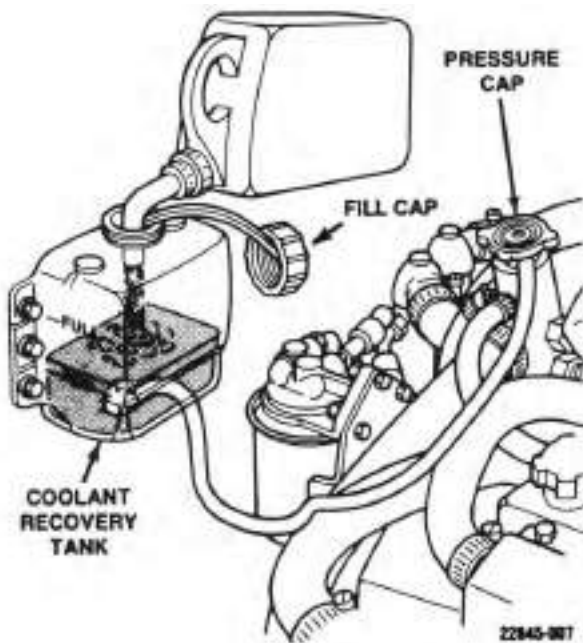

Figure 4-2 – Checking Coolant Level
- If your yacht has fresh water cooled gasoline engines, remove pressure cap from heat exchanger and check that coolant is up to neck of filler tube. (See **Figure 4-2.**) If cooling system needs filling, refer to the engine owner's manual for details.
6. If your yacht has fresh water cooled gasoline engines, remove pressure cap from heat exchanger and check that coolant is up to neck of filler tube. (See **Figure 4-2** on page 4.2.) If cooling system needs filling, refer to the engine owner's manual for details.